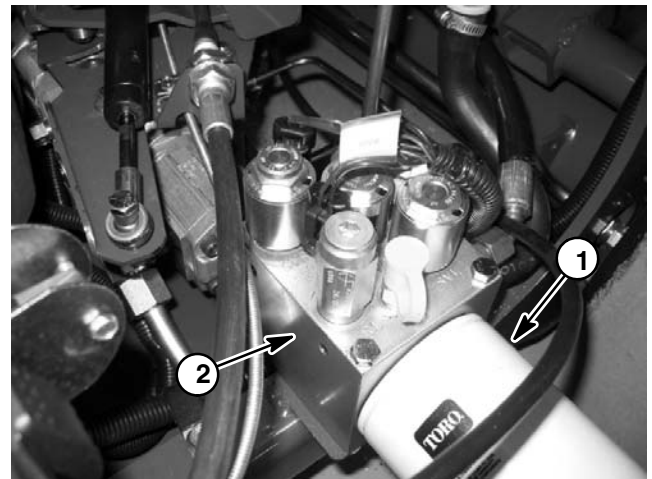

Figure 26
**IMPORTANT:** Flush hydraulic system when changing from petroleum base hydraulic fluid, such as Mobil 424, to biodegradable fluid, such as Mobil EAL EnviroSyn H. Operate machine under normal operating conditions for at least four (4) hours before draining.
3. Clean area around filter mounting area (Fig. 26). Remove filter from hydraulic manifold and drain reservoir into a suitable container. Drain hydraulic system. Drain all hoses, tubes and components while the system is warm. Discard filter.
8. Turn ignition key switch to start position; engage starter for ten (10) seconds to prime hydraulic pumps. Repeat this step again.
10. Start engine and let it idle at low speed for a minimum of two (2) minutes.
11. Increase engine speed to high idle for minimum of one (1) minute under no load.